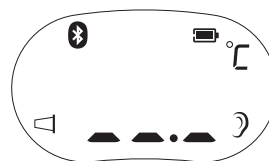

Figure 2
2. Press the *Test Button*, the display is activated to show all segments. After self-checking Figure 2 appears on the display screen with beeps, so you can start a new measurement. If error messages appear, it means the thermometer is not ready for measurement.
When the thermometer has been turned on and followed by Figure 2/4 or finished testing, press the *Memory Button*. The letter M will appear in the upper left corner of the display.